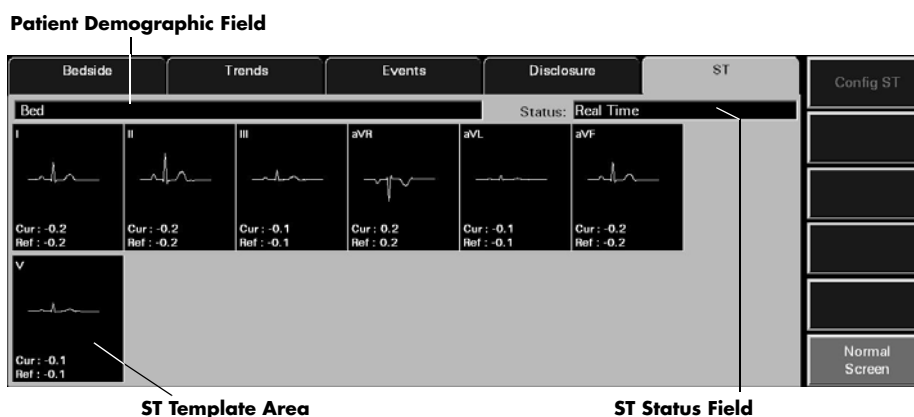

FIGURE 7-26 ST Tab - Hardwired Bedside Monitor (5-wire lead set)
2. Select the **ST** tab. The **ST** tab (shown in FIGURE 7-26 or FIGURE 7-27) is displayed.